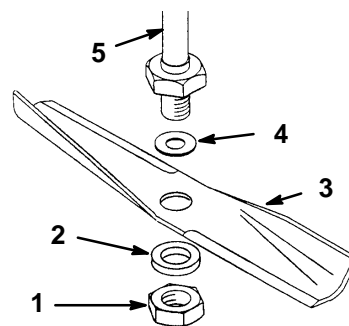

Figure 25
1. Install the washer, blade, flat washer, and the blade nut (Fig. 25).